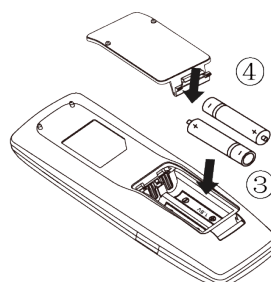

Fig.23
(3) Place two 7# (AAA 1.5V) dry batteries, and make sure the position of “+” polar and “-” polar is correct (as shown in Fig 23).
(4) Reinstall the cover (as shown in Fig 23).